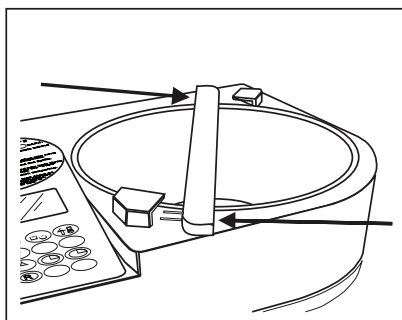

Fig. 2
- Insert the baffle into the bowl and rotate it clockwise until the connector pin clicks into the baffle lock (see Fig. 2).